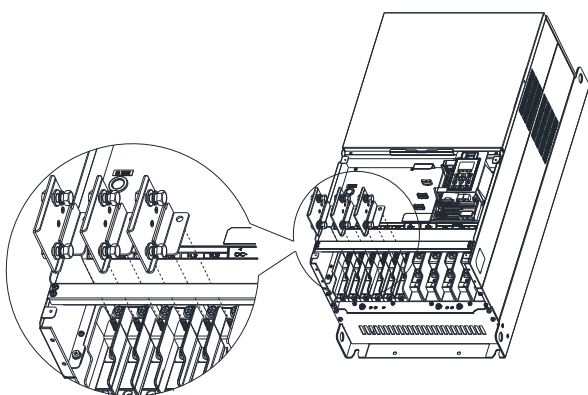
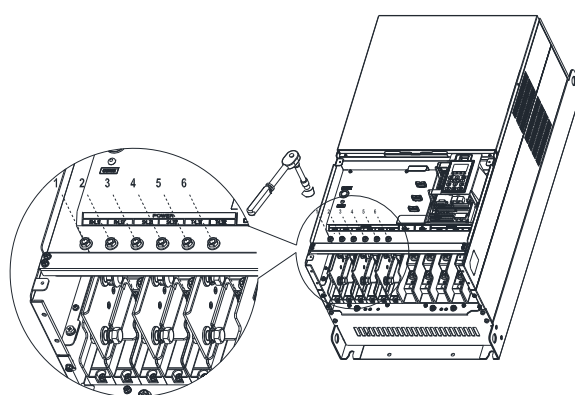

Figure 1
Figure 2
4. Install the 3pcs copper assy., as shown in the following figure 1. Fasten the upper M8 nuts (1–6) with a sleeve wrench (12 mm of the sleeve), as shown in the figure 2 and figure 3 below.